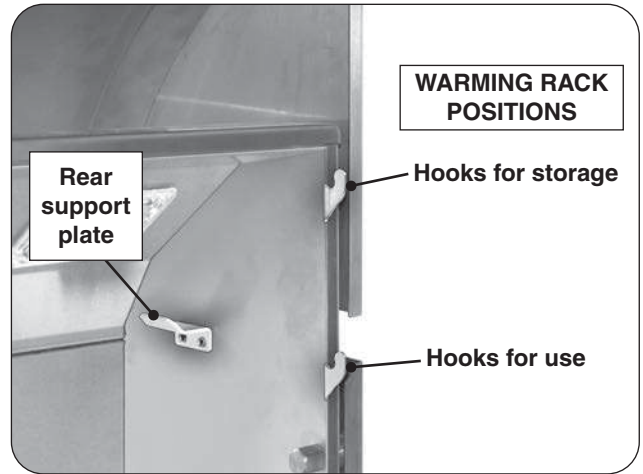
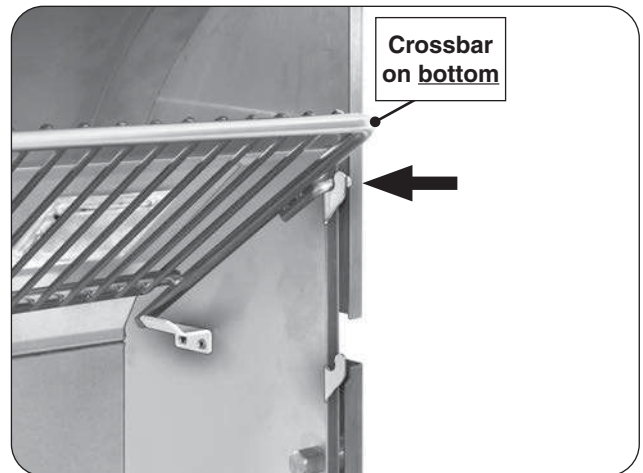

Fig. 24-1 Warming rack hooks
Fig. 24-3 Place warming rack in storage position
1. Locate the warming rack hooks and rear supports found on the upper portion of the grill oven (see Fig. 24-1).
3. Use the top hooks for storage (see Fig. 24-1 and Fig. 24-3).